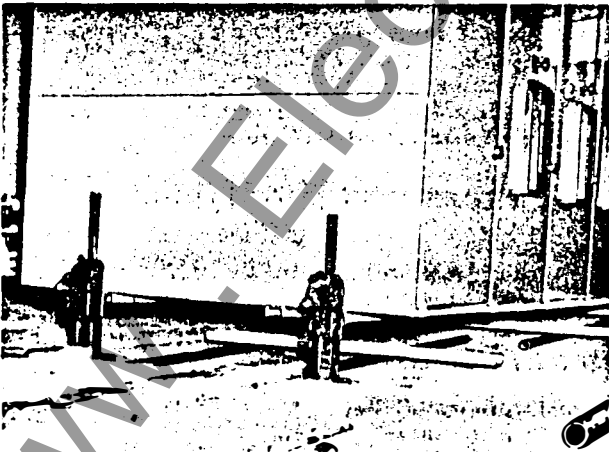

Fig. 5—Switchgear Raised, Rollers and Channels in Place Prior to Lateral Moving
4. For lateral moving, raise housings by jacks and remove track timber. Place rollers laterally with steel channels resting on rollers as shown in Figs. 5 and 6. Move housings over mounting site and proceed with fastening of housings.